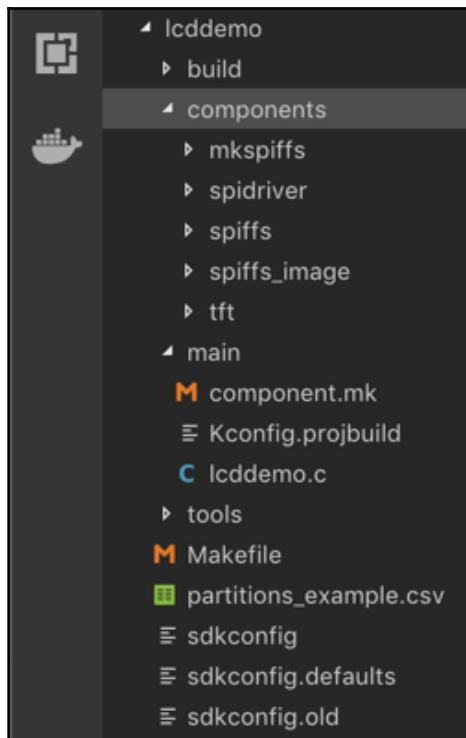

Figure 2-8: Project structure for lcddemo
3. Copy the contents of the components and tools folders into our project. The final result of our project structure can be seen in Figure 2-8: